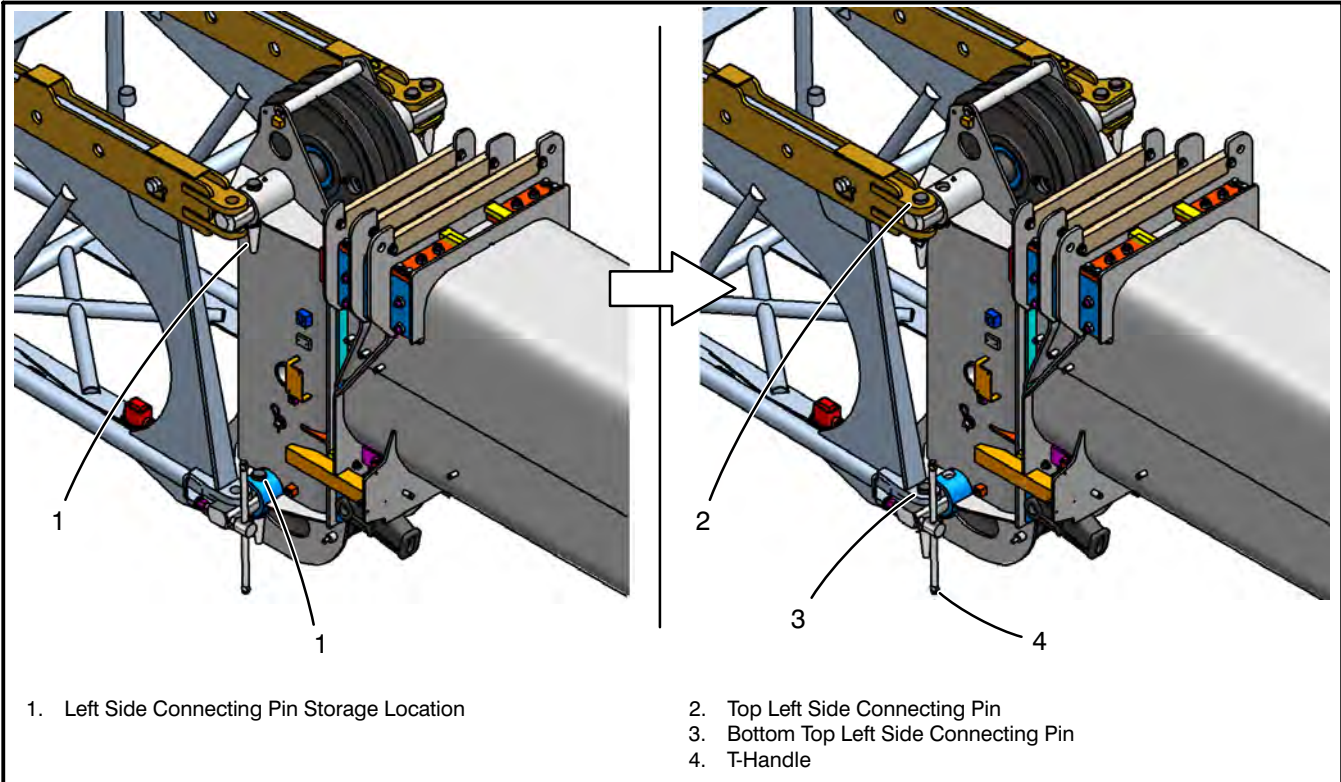

Figure 4–19
15. Remove the two fly connecting pins from the storage location (1) on the boom head machinery cross shafts on the left side of the boom. Refer to Figure 4–19. Install one pin through the top fly lug (2) on the left side of the boom. Turn the t-handle (4) to push and align the bottom left fly lug and the bottom boom head cross shaft. Install the bottom left fly connecting pin (3). (Install the pins with the head on top and the keeper on the bottom.) Install the pin keepers. Back off the t-handle until at least a 1/2 in (1.3cm) clearance from the fly lug is obtained.